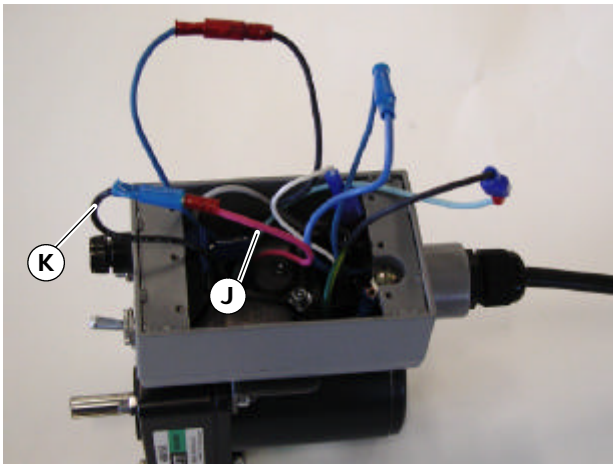

Figure 8
5. Locate black wire (K of Figure 8) connected to red wire (J).